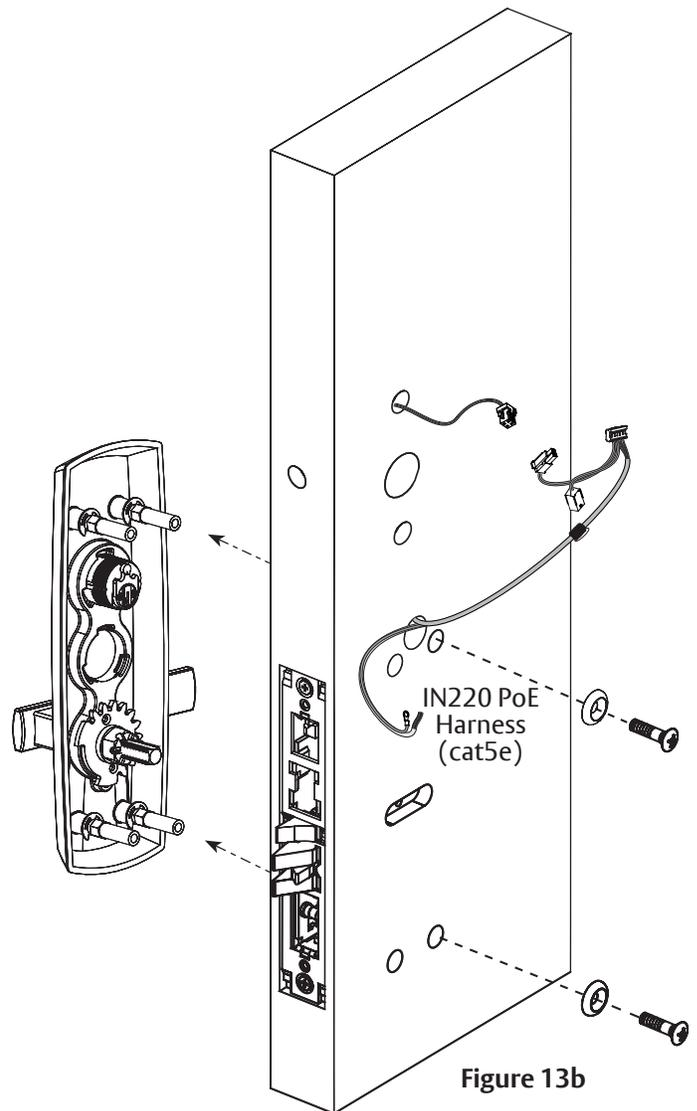

Figure 13b
4. Fasten trim assembly to door using (2) 1/4-20 oval head screws and (2) finish washers (Figure 13b).